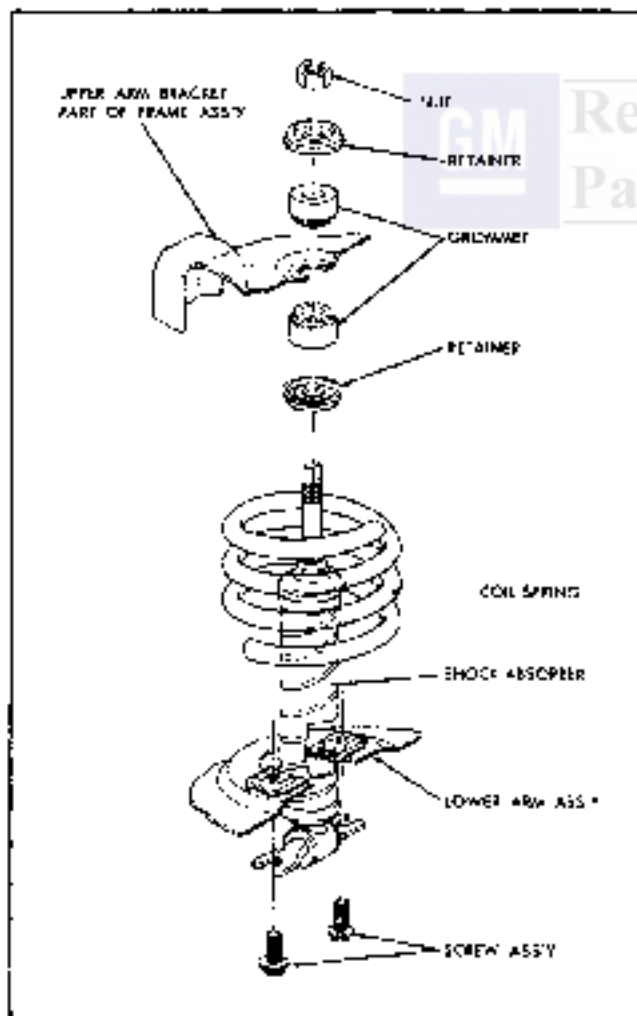

Fig. 3-7 Typical Shock Absorber Installation
FRONT WHEEL BEARING REPLACEMENT (Fig. 3-7)
1. Install new shock absorber by reversing the above procedure. Make sure all grommets and retainers are correctly installed (Fig. 3-7).